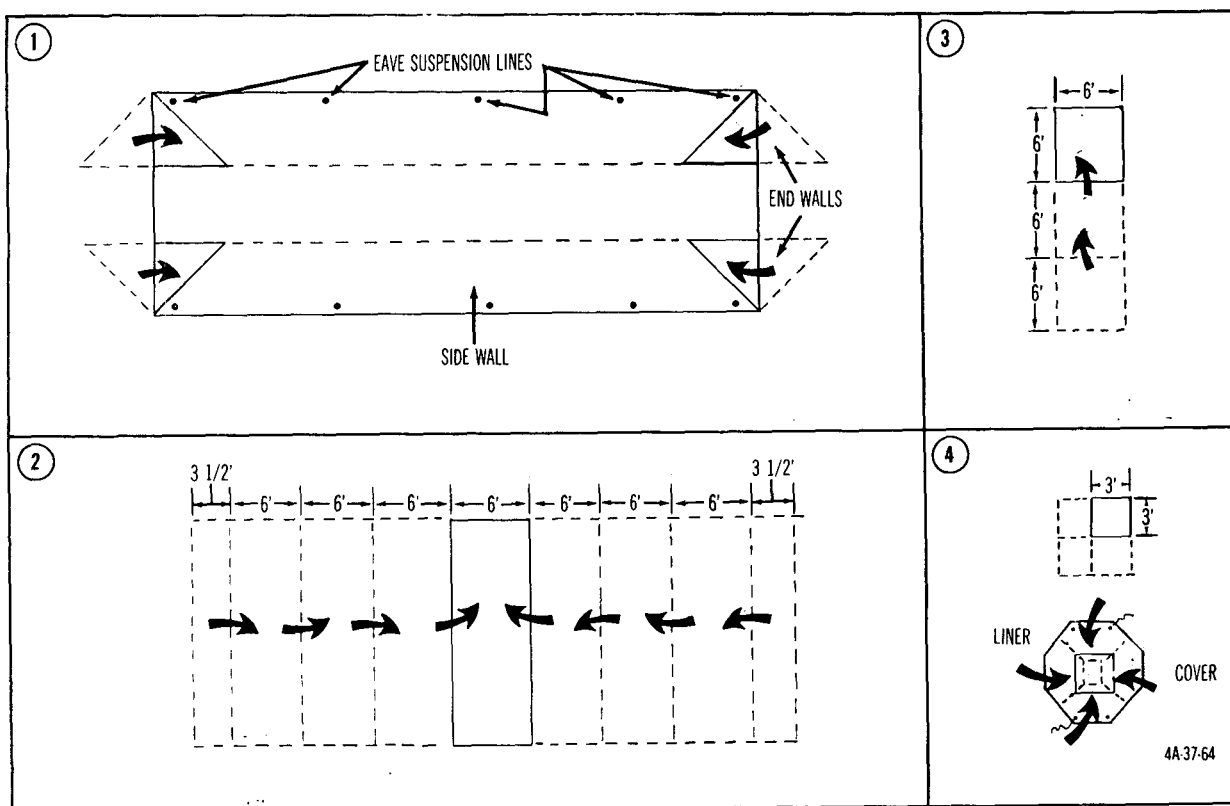

Figure 23. Steps in folding liner of tent, general purpose, large.
(1) Folding liner (fig 23).
(c) Fold one end of folded liner toward the center and over the other end so that dimensions of folded liner are approximately 6 feet by 6 feet (3, fig 23).
(d) Fold liner in half twice so that dimensions of folded liner are approximately 3 by 3 feet, place folded liner in center of liner cover, fold all cover ends of flaps neatly within package, and close cover securely (4, fig 23).